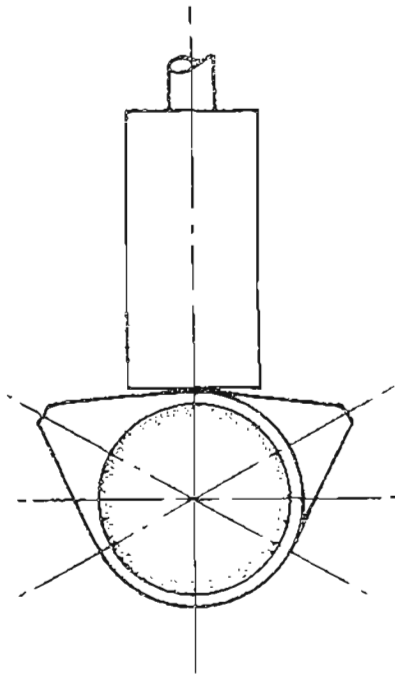
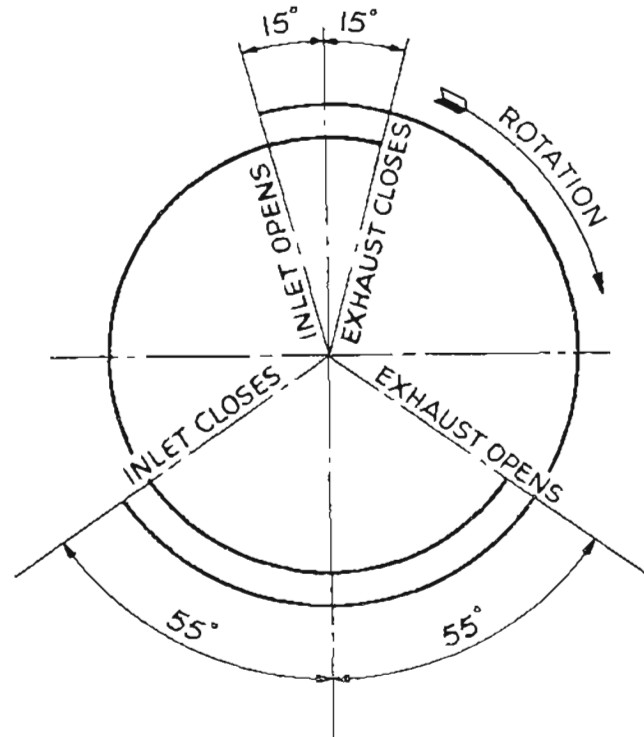

Fig. 24 The Valve Tappet is at Point of Balance.
Fig. 25
- (c) Rotate the camshaft until the exhaust valve and inlet valve of No. 4 cylinder are at the point of balance in which the tappets will be in the position shown in Fig. 24. In this position the exhaust valve will just be about to close and the inlet just commencing to open. From the timing diagram, Fig. 25, it will be observed that the inlet valve opens at 15° B.T.D.C. and the exhaust valve closes at 15° A.T.D.C. 15" before or after T.D.C. is equivalent to .081"